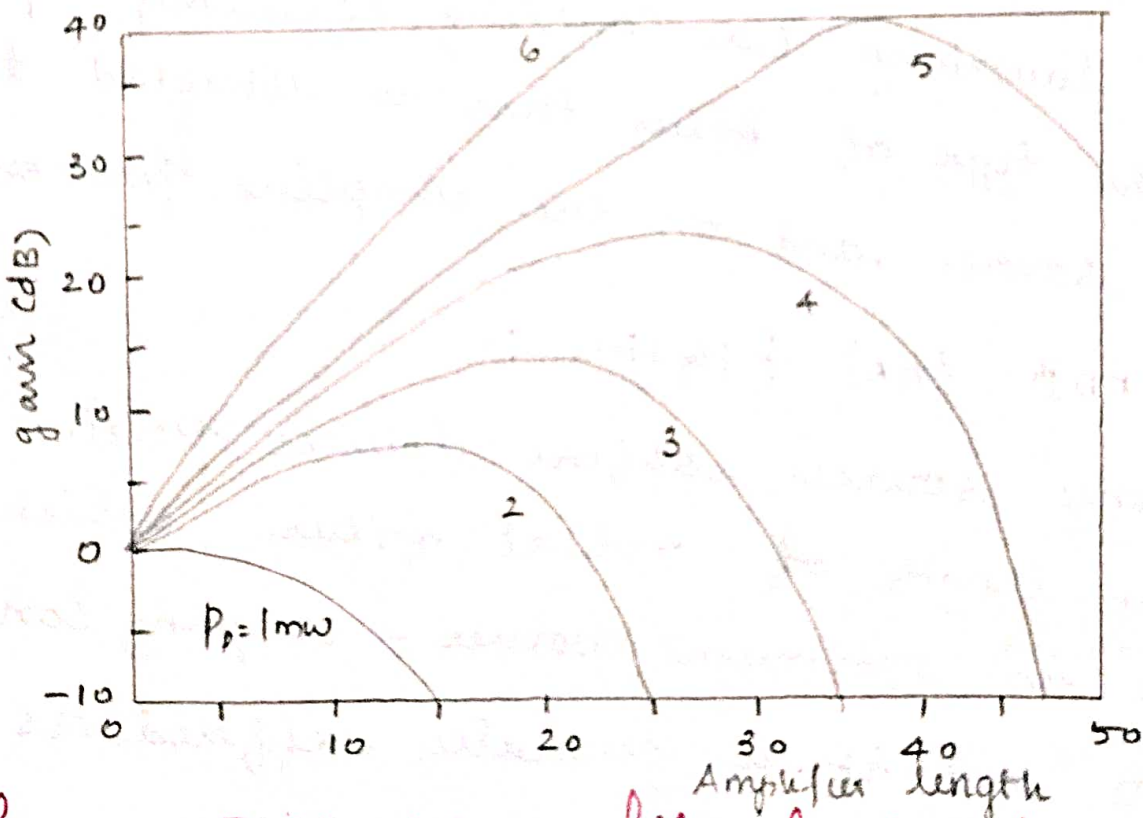

fig 3:30 EDFA gain on fiber length and pump power for 1480 nm pump and 1550 nm signal.
* In the below fig 3:30 as the fiber length increases for low pumping power, the gain starts decreasing after certain length because the pump become weak and not able to create a complete population inversion in the downward portion of the amplifier.